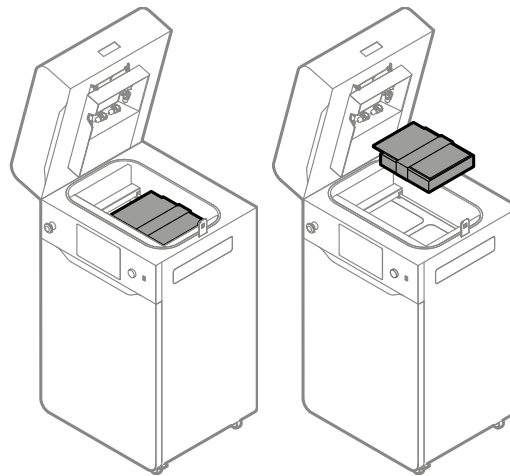

Fig. 5.4 Removing the box with accessories.
9. Remove the Start up box with the laser protective glass and other accessories (fig. 5.4).